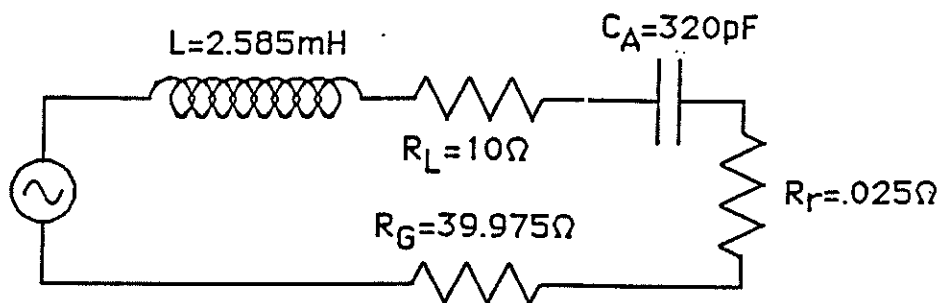
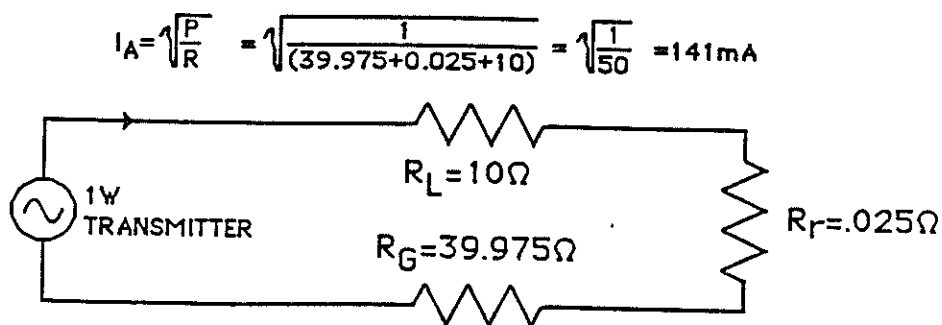

Figure 2. Transmitting loop of a typical 1750m installation.
Figure 3. Transmitting loop in resonance reduces to resistances.
Figure 3—A typical 1750-meter transmitting antenna system (A). The radiator is topped with a "capacitance hat" and secured with several guy wires. A glass bottle insulates the base. The loading coil (B) connects between the radiator and the ground system with the feed line attached to the coil taps. The length of the radiator and feed line must conform to FCC Part 15 Rules. ("The total length of the transmission line, antenna and ground lead, if used, shall not exceed 15 meters.")
While the the 2,842-ohm capacitive reactance is easily tuned out by a 2,842-ohm inductive reactance, still buried in that 50-ohm resistance is a useful(?) radiation resistance of 0.025 ohms. Graphs showing radiation resistance for electrically short top-loaded verticals are found in various engineering literature (1,2,3,4). Figure 2 shows a schematic representation of the transmitting loop.
Our loading coil depicted in Figure 2 has a Q of 284. Q is the ratio of inductive reactance (2842 ohms) to resistance (10 ohms). When the coil is hooked up to the antenna and transmitter the overall Q is $2842/(10+39.975+0.025)=2842/50=57$. Q is also related to bandwidth and in this case (175kHz) the bandwidth is $175000/57=3\text{kHz}$. A $\pm 1.5\%$ shift in antenna capacitance or coil inductance will drop the output 3dB--half power. Since transmitter characteristics are unknown, the previous statement is at best a very crude approximation, but it is in the ball park and tuning is critical. If we assume that the circuit is resonant, we can further simplify as shown in Figure 3.